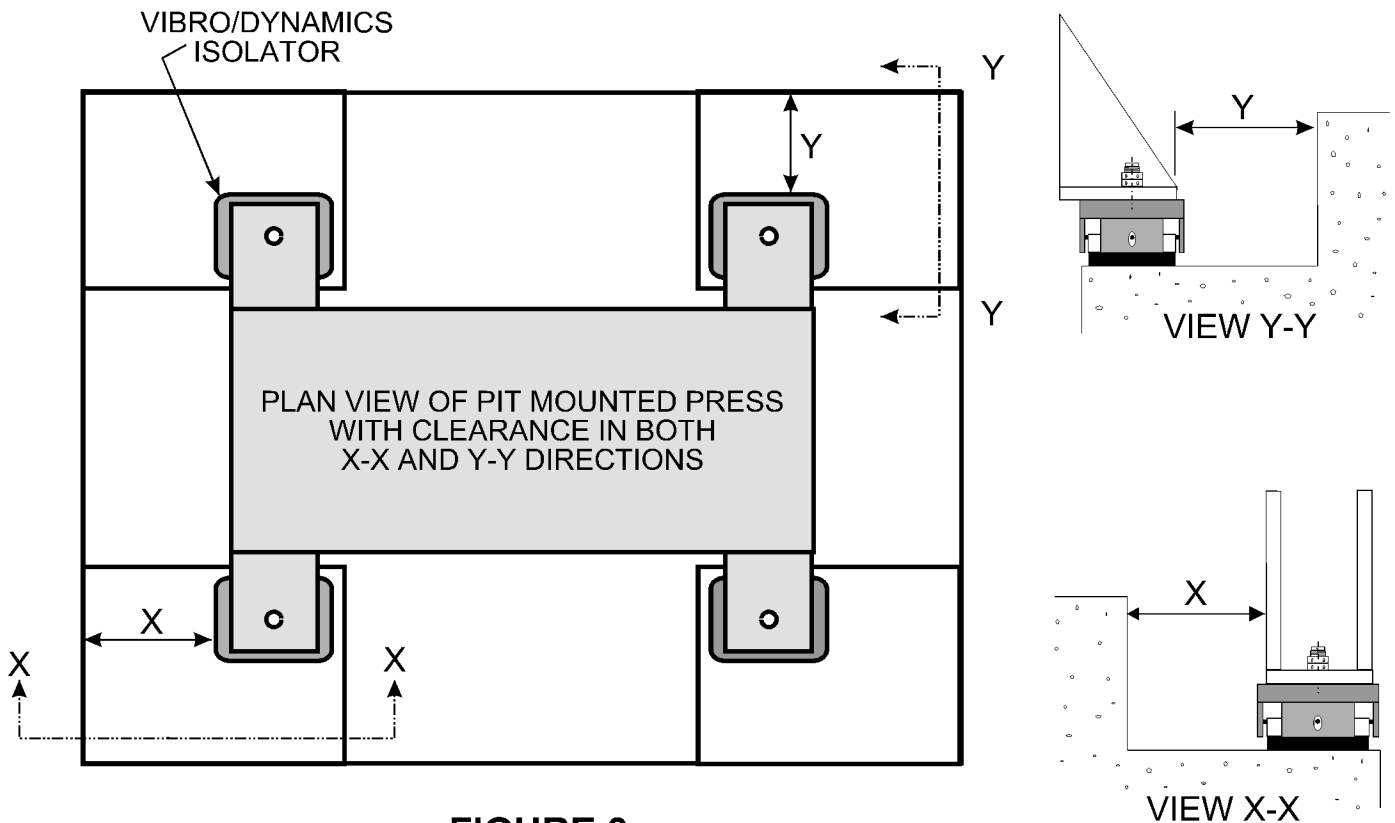

FIGURE 3
6) Clearance should be provided in either the X or Y direction to allow for the installation and removal of the isolators. See Figure 3 and Table 1.